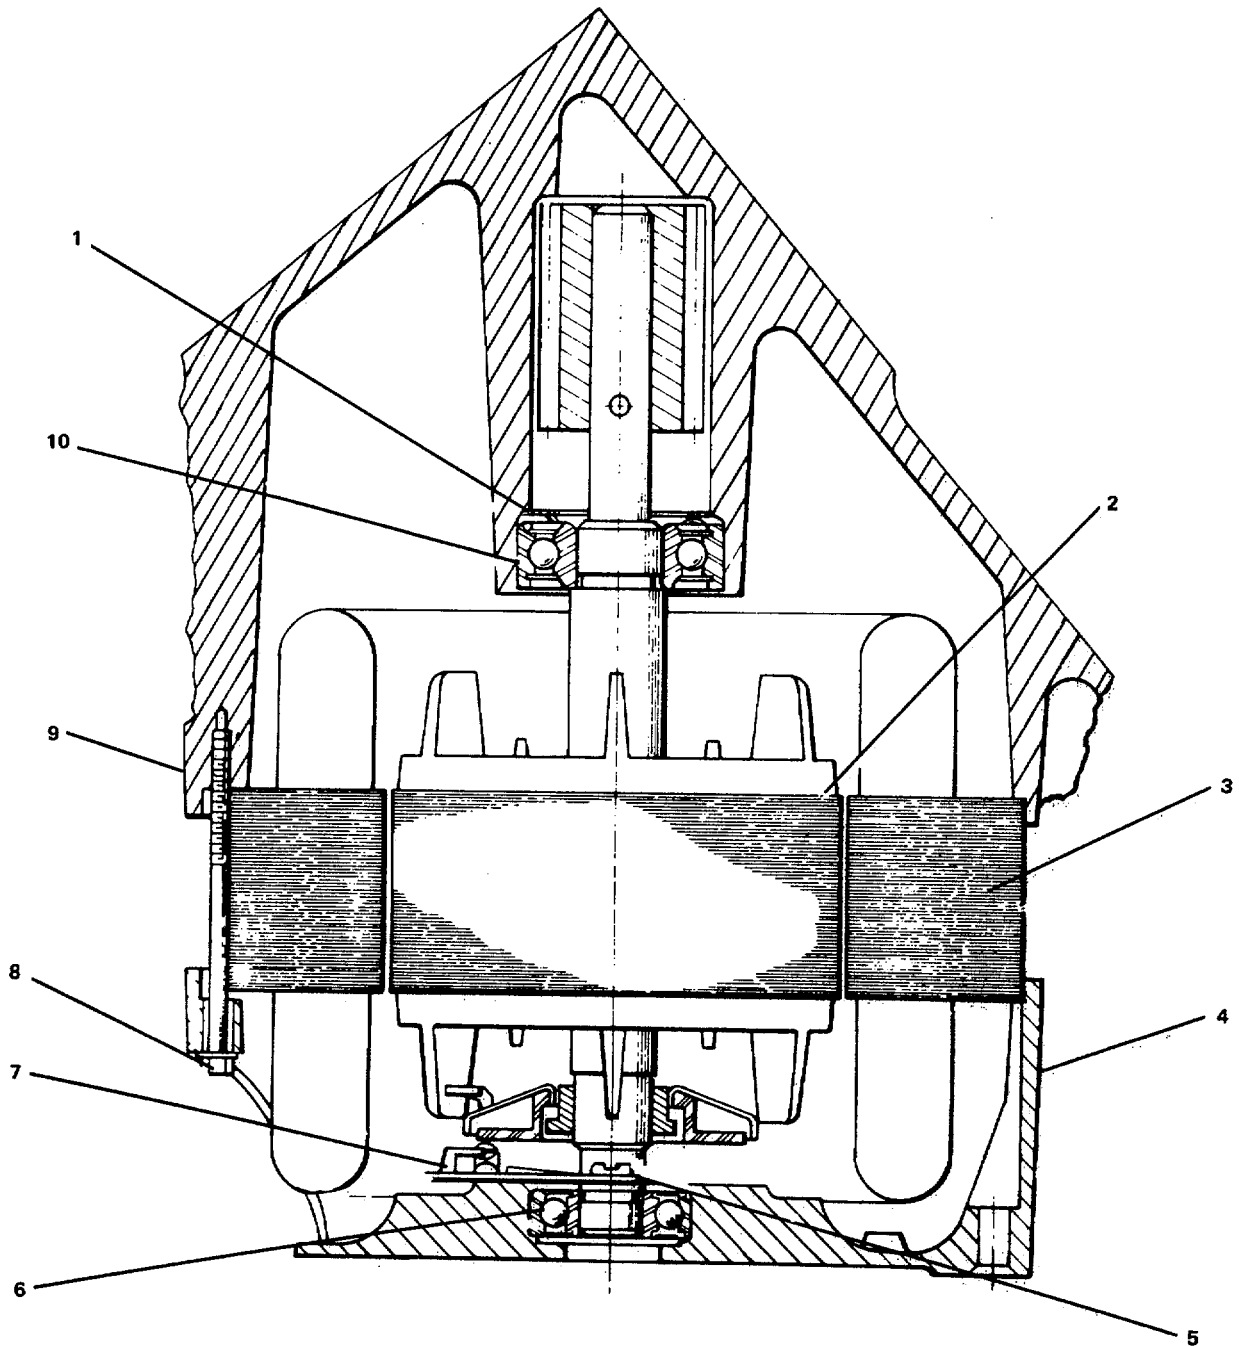

FIGURE 3-73. *Repair Motor.*
**3-73. Repair Motor. (Figure 3-73)**